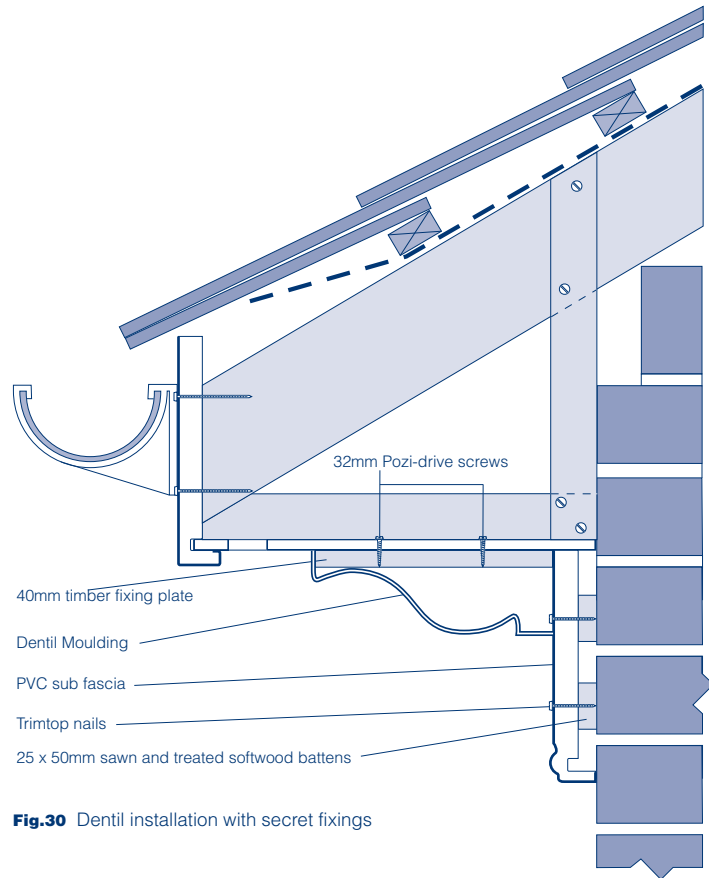

Fig.30 Dentil installation with secret fixings
- A strong mechanical secret fix is achieved through the soffit using stainless steel screws. (Fig 30). This application is performed in newbuild prior to the installation of the roof covering, or in renovation when the first two rows of tiles have been removed.